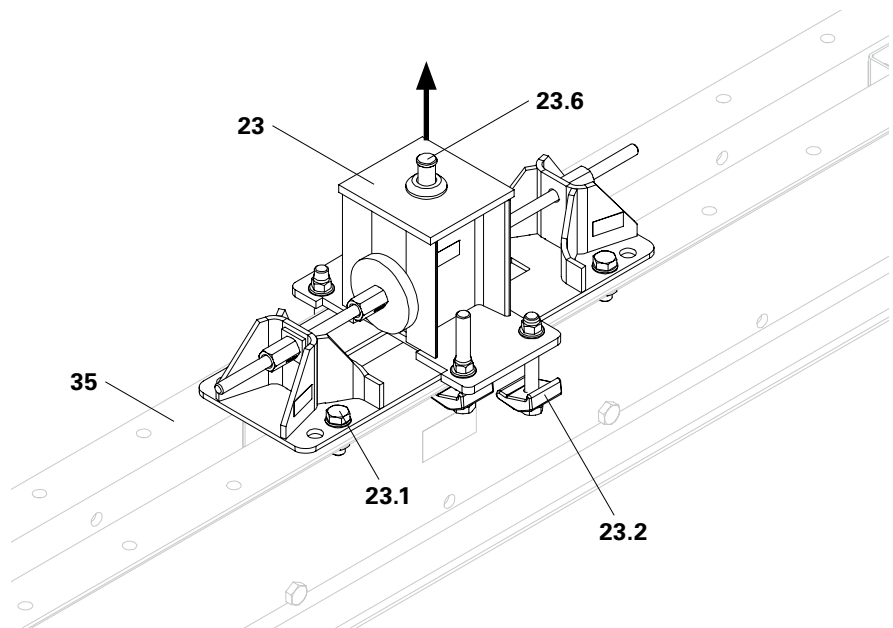

Fig. E1.03
4. Remove Horizontal Bearing (23) from the Main Beam (35).
- (Fig. E1.03)